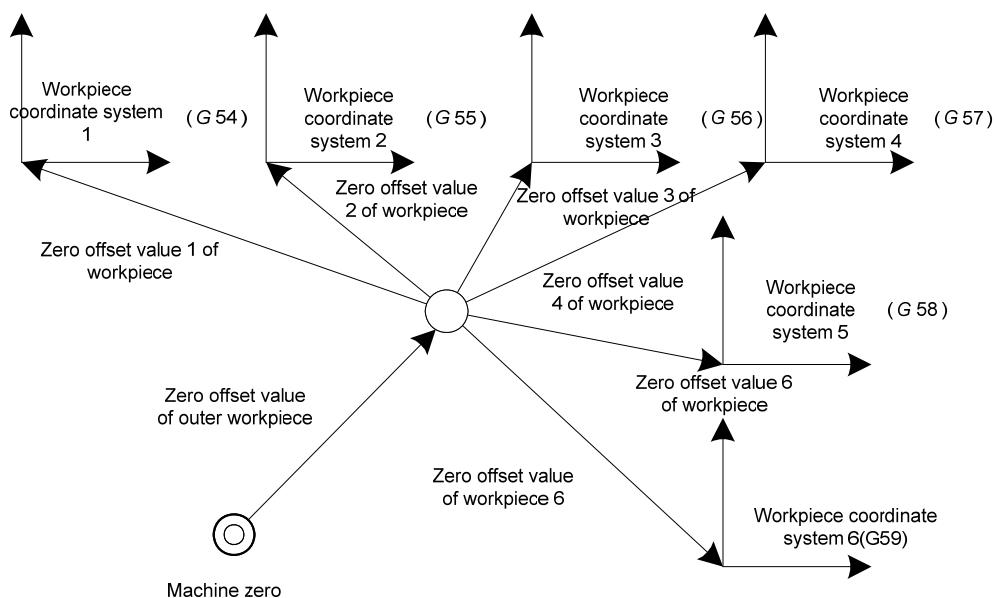

Fig. 2-23
**Note 2: G54-G59 describing the 6 workpiece coordinate systems can change their positions by the external workpiece zero offset value or workpiece zero offset value, and their relationship is as Fig. 2-23;**